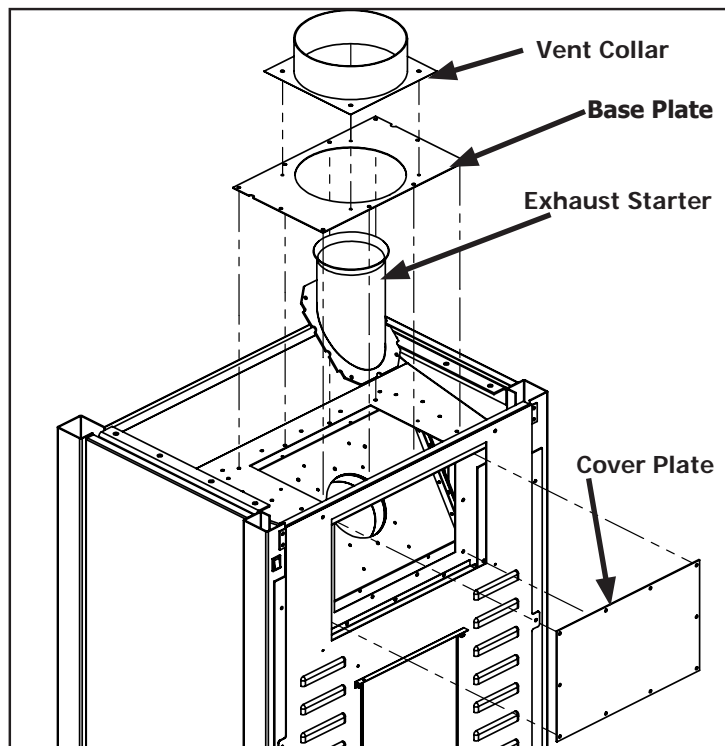

Figure 24. Vent Conversion - Step 2
Step 2: Next, remove the vent collar, base plate, cover plate and exhaust spigot (28 screws total) as shown in Figure 24.